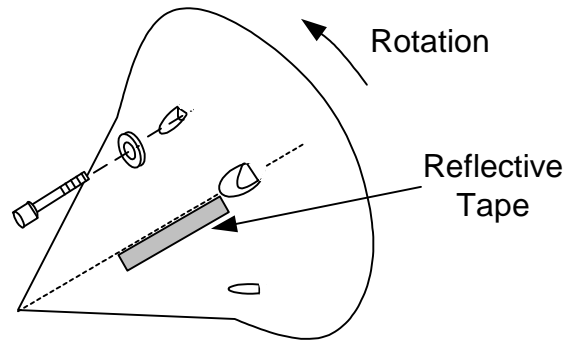

Figure 1. Reflective tape installation on spinner.
5. Cut a two to three inch length of reflective tape (included with the lasetach II, item 6.).
6. Remove the backing from the reflective tape and attach it to the spinner on the cleaned area of and along a line beginning at the forward edge of the spinner attaching bolt hole and extending toward the spinner tip. The tape should be positioned so that the leading edge is parallel to and aligned with a line between the bolt hole and the spinner tip as shown in Figure 1. below. Make sure there are no bubbles in the tape and that all edges are firmly pressed down and attached to avoid lifting and blowing off during engine runs. The bolt hole in line with the leading edge of the tape is now designated as the “0” or index hole for the purpose of locating hole numbers for adding trim balance weights. (See figures 1., 2 and 3 below).